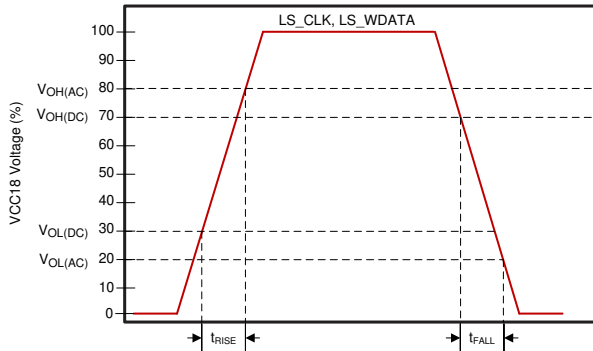
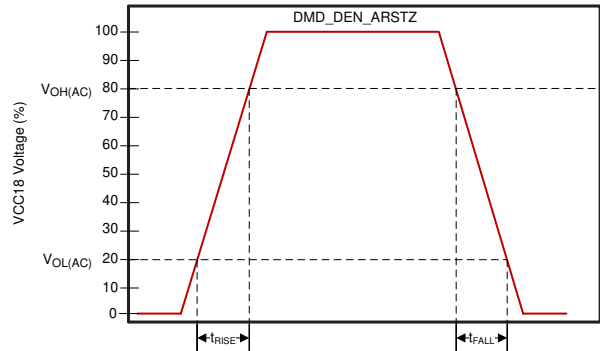

Figure 5-3. LS_CLK and LS_WDATA Slew Rate
Figure 5-4. DMD_DEN_ARSTZ Slew Rate
- See Figure 5-3 for DMD_LS_CLK, and DMD_LS_WDATA rise and fall times. See Figure 5-4 for DMD_DEN_ARSTZ rise and fall times.